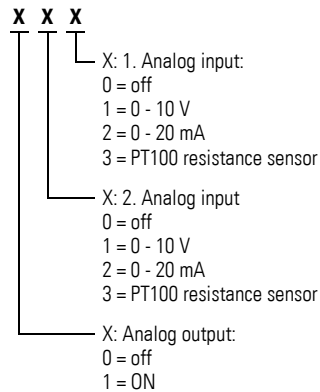

Figure 93: Device parameters EASY406-DC-ME (three-digit)
- ▶ Use the <> cursor buttons to select the digit to be changed and then use the ^ v cursor buttons to select the required value (→ Figures 93 and 94 on the following pages).